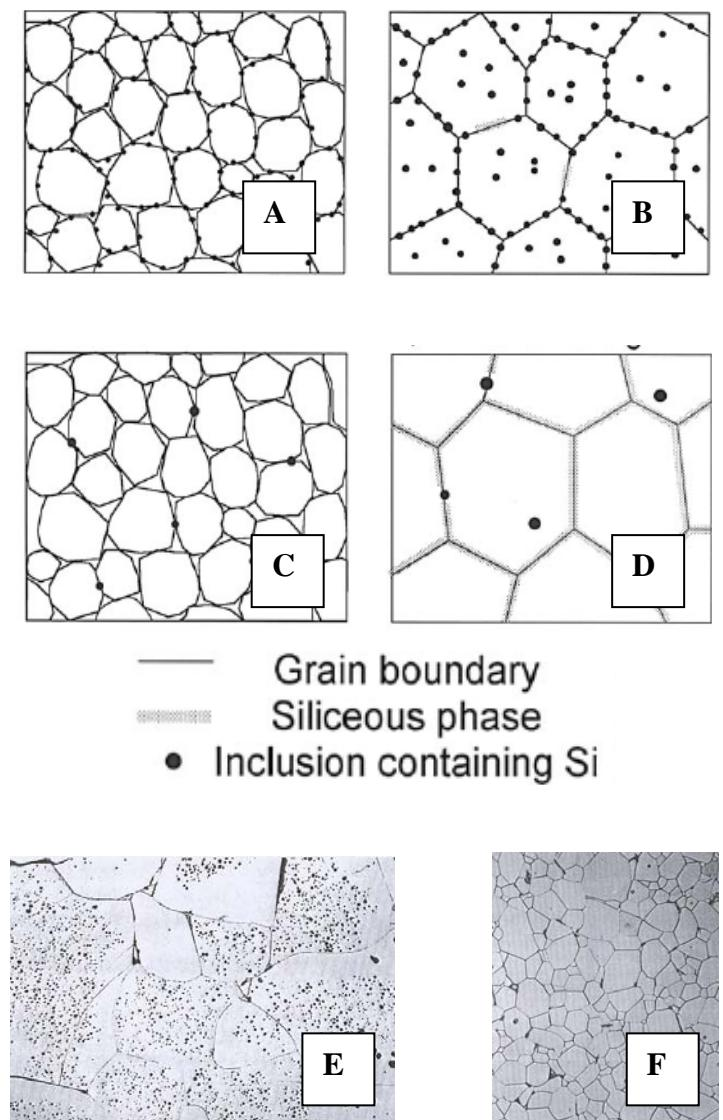

Figure 2: Six different forms of microstructure derived from the same base-ceramic material.
6. [a] Based on Figure 2 and using the same ceramic material, how would you design your solid state sintering to transform:-